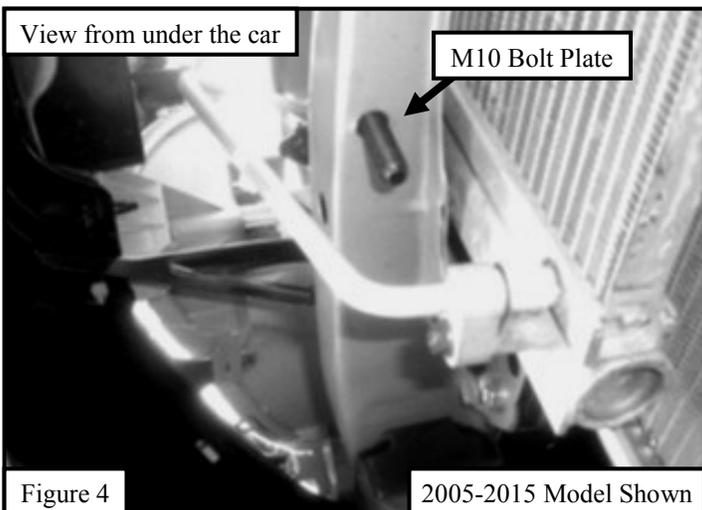

Figure 4
7. **For 2005-2015 vehicles:** Locate one factory hole on each side of the radiator for support, then insert from the top of the radiator support (1) M10 bolt plate into each hole. See **Figure 4**.